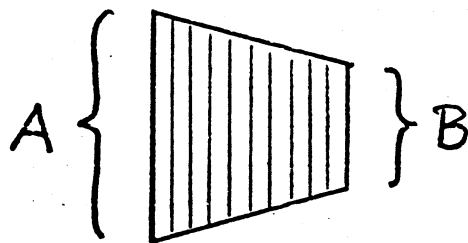

Fig. 1
least significant digit: 100 μ V(See Fig. 1 for required testbox)
- 5) Set the Sig. Gen. to INT. MOD. and adjust, with the modulation potentiometer, until A are 6,5 divisions and B are 3,5 divisions, at the same time. (See Fig. 1 below).